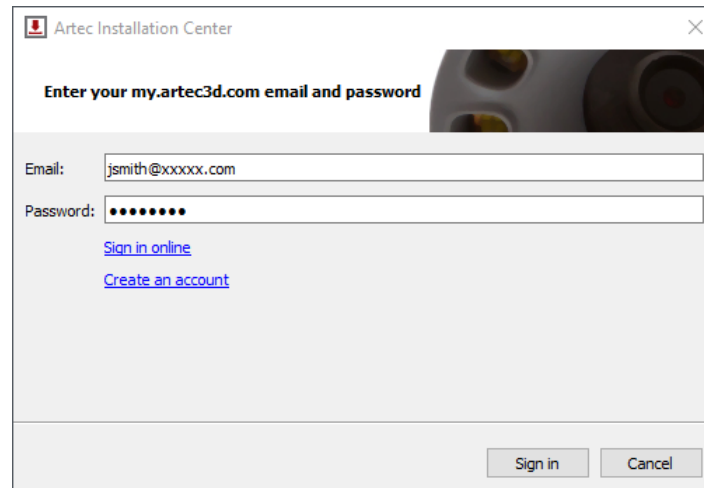

Figure 19: Authentication for Artec Installation Center
2. After downloading, open the folder that contains the executable and run it. Follow the instructions on the installation screens. Once Artec Installation Center is installed, you will see a dialog requesting your email address and password. Use your my.artec3d account to log in as Figure 19 shows.
If you have yet to install Artec Installation Center, a login dialog will appear, as Figure 19 shows. If you are not connected to the Internet, consult Offline Activation regarding offline activation of Artec Studio.